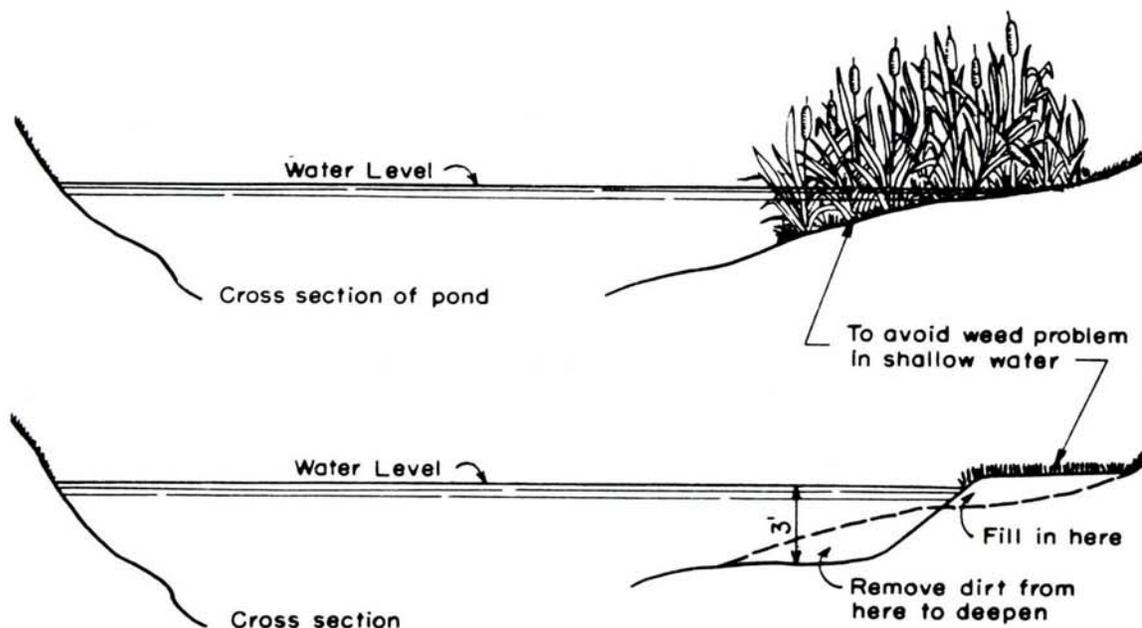

FIG.1 - Pond edges should be deepened to control emergent water plants and improve fishing.
- B. A minimum depth of three feet for shoreline and any part of the impoundment. (Figure 1.)